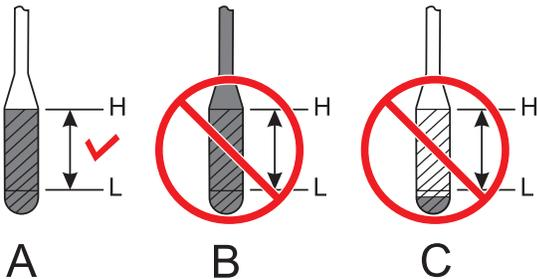

Figure 26. Engine Oil Dipstick
3. Reinsert the dipstick, then remove the dipstick from its holder. Check the oil level shown on the dipstick (Figure 26).